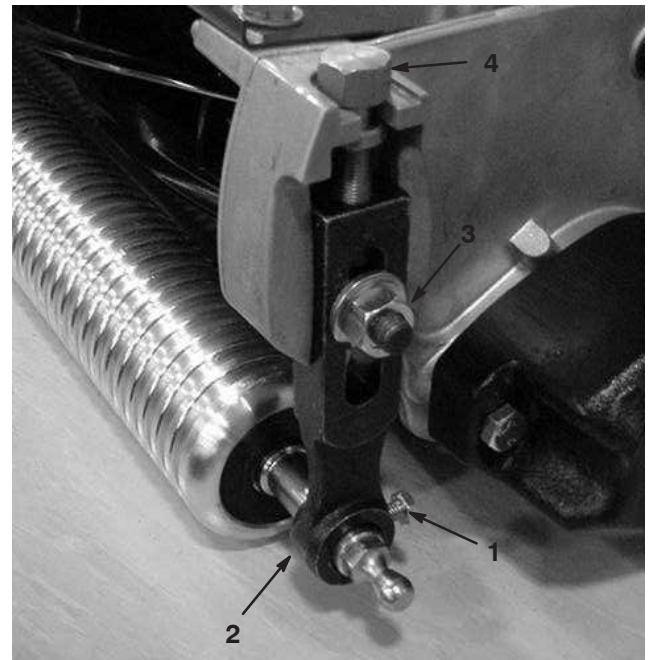

Figure 1
2. Loosen the screws securing each end of the front roller to the height-of-cut arms (Fig. 1).
3. Remove the carriage bolts, washers and locknuts securing the height-of-cut arms to each end of cutting unit (Fig. 1). Remove the height-of-cut arms and roller assembly.
4. Remove the height-of-cut adjusting screws from the height-of-cut arms (Fig. 1).